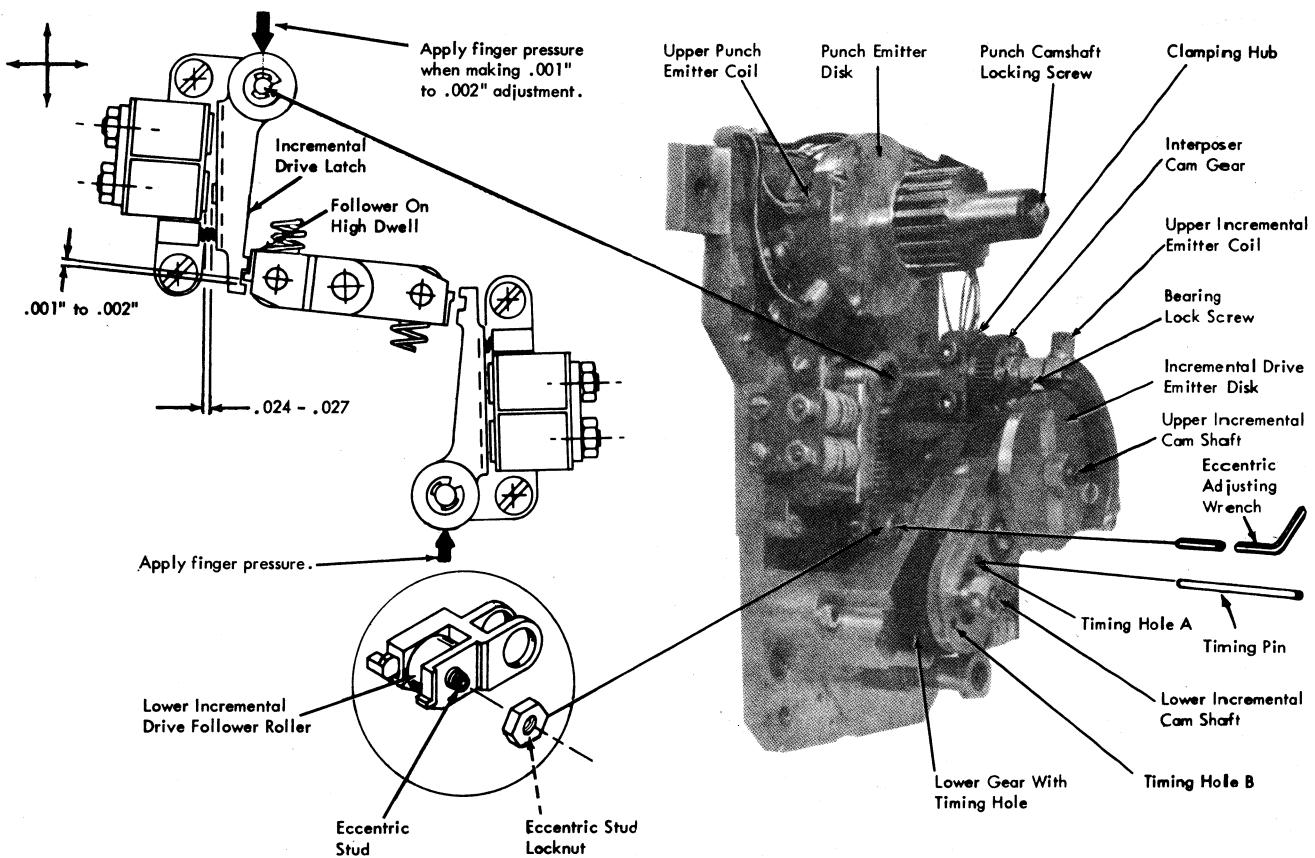

Figure 4-47. Incremental Drive Adjustments
- .024" to .027" between latch and magnet core furthest from latch pivot (Figure 4-47).
- .001" loose and .002" tight clearance between latch latching surface and follower latching surface while maintaining finger pressure on latch (Figure 4-47). Turn drive to other high dwell on cam and recheck this clearance. Use special gages, P/N's 626532 and 626533, to check for this clearance. The accuracy of this adjustment is essential for proper incremental drive operation.
1. Remove mounting bracket containing incremental drive emitter coils (Figure 4-47).
3. Turn incremental drive gears until incremental drive timing hole A (Figure 4-47) aligns with hole in gear. Insert timing pin.